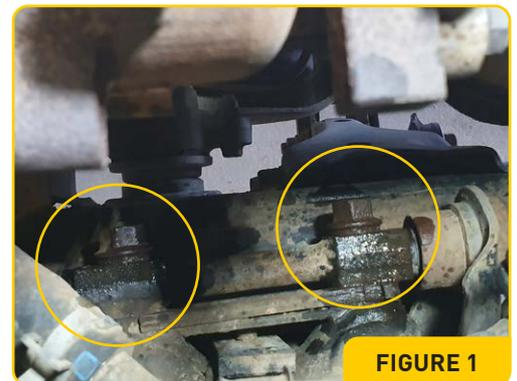

FIGURE 1
10. Remove the (2) retaining bolts and remove the UCA from the vehicle. *See figure 1.*
11. Fit the new Blackhawk UCA onto the vehicle and loosely install the (2) retaining bolts.
13. Tighten the (2) retaining bolts.